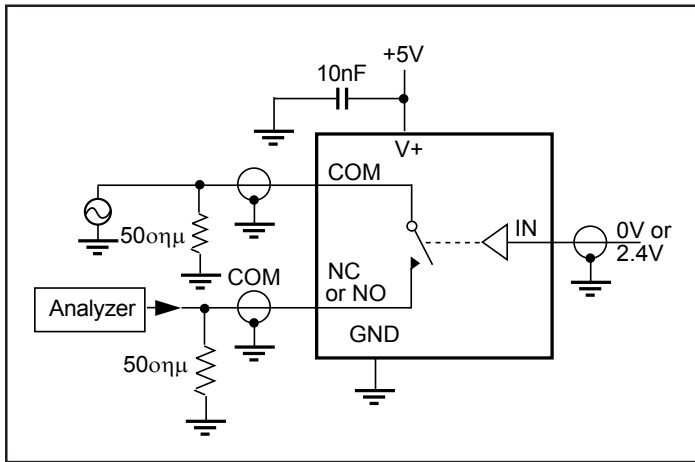

Figure 3. Off Isolation
- Off Isolation = $20\log_{10} [V_{COM} / (V_{NO\ or\ V_{NC}})]$. See Figure 3.